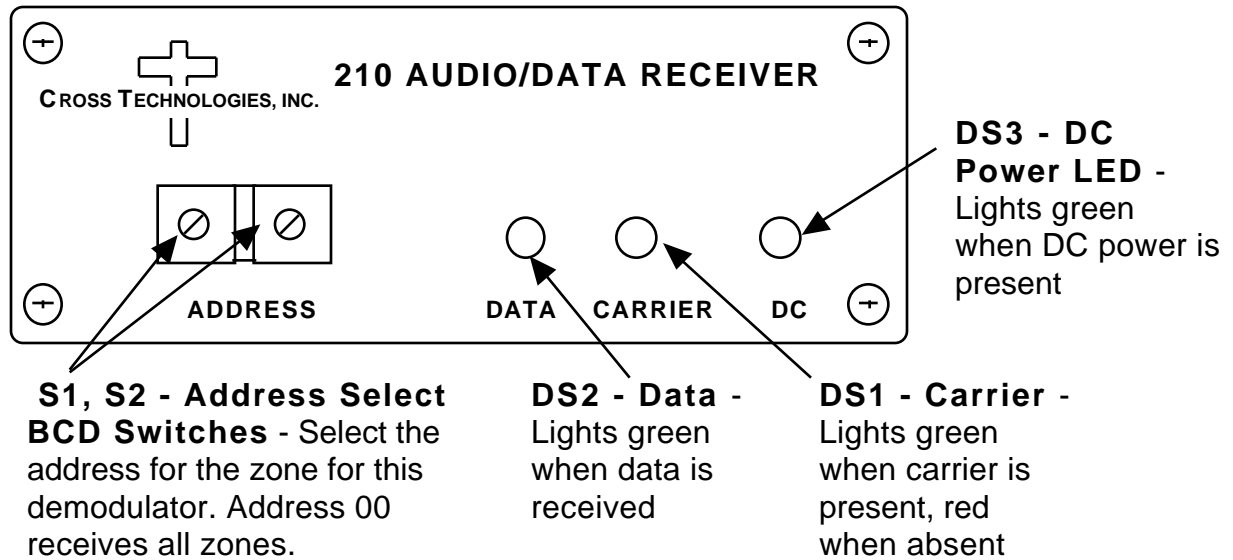

FIGURE 2.2 210-01 Front Panel Controls and Indicators
2.2 Controls and Indicators - See Figure 2.2 .